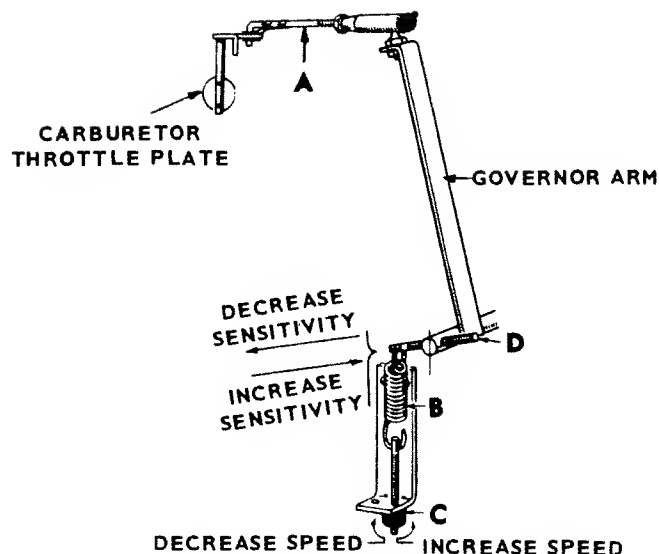

FIGURE 9. GOVERNOR ADJUSTMENT
With the set stopped, the length of linkage "A" must (with tension on spring "B") allow the carburetor throttle stop lever to just clear (maximum 1/32 inch) the carburetor body (Figure 9). Alter linkage length by turning the ball joint on the threaded rod. Run the set (under load) to thoroughly warm it up.
1. **Alternating Current Set:** Connect a voltmeter across the generator output. With the set operating at no-load, adjust the speed nut "C" (Figure 9) for a voltmeter reading of 126 volts for 120 volt sets (252 volts for 240 volt sets). Voltage should not fall below 108 volts for a 120 volt set (216 volts for a 240 volt set) under full rated load.
3. **Battery Charging Set:** Turn speed nut "C" (Figure 9) to give the desired charge rate. Normal speed, as specified on the nameplate, is approximately 2400 rpm. If the charge rate tends to "taper off" too soon, turn the sensitivity screw "D" clockwise. If the charge rate is unsteady, turn the sensitivity screw "D" counterclockwise.